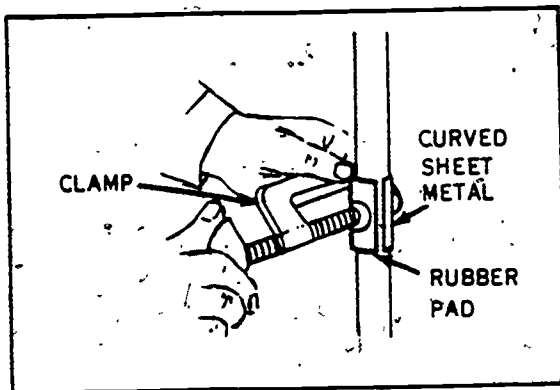

Figure 6-2. Repairing a hole in a pipe with a rubber pad, piece of sheet metal, and a clamp.
c. Rubber pad. Holes in pipe and fittings may also be repaired temporarily by covering the pipe with a rubber pad which is held in place by a sheet metal piece and a suitable clamp, as shown in figure 6-2.